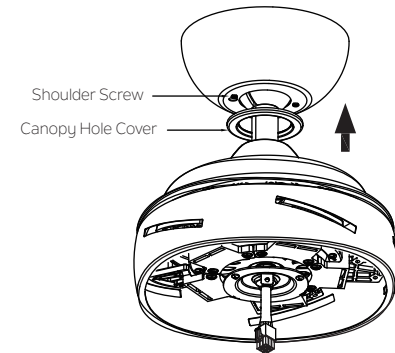

Fig. 15
Step 2. Securely attach and tighten the canopy hole cover over the shoulder screws in the mounting bracket utilizing the keyslot twist-lock feature. (Fig. 15)